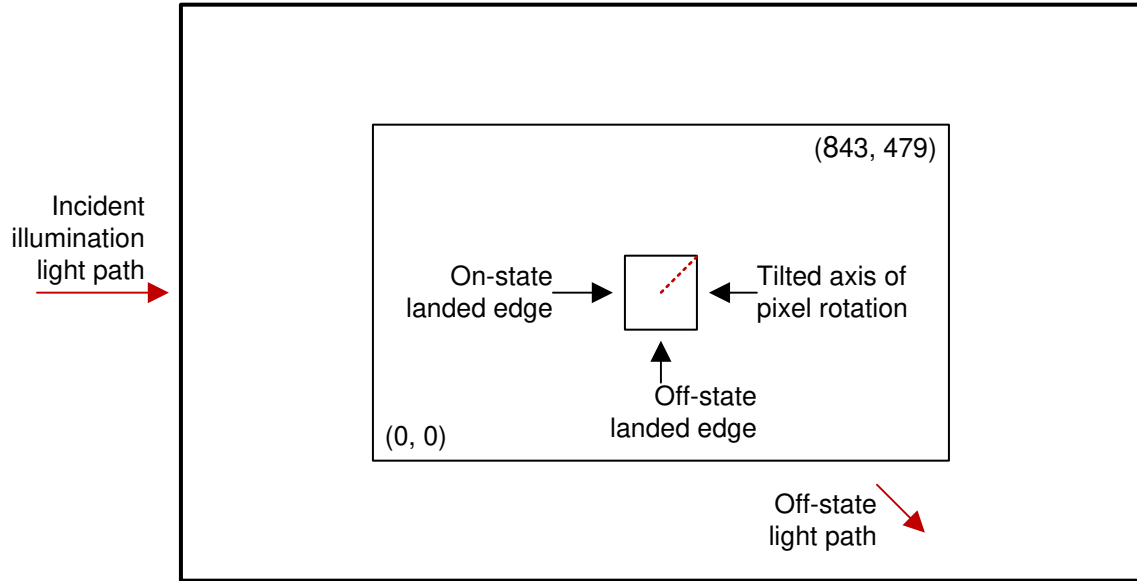

图 6-17. Landed Pixel Orientation and Tilt
- (1) Measured relative to the plane formed by the overall micromirror array.
- (2) Additional variation exists between the micromirror array and the package datums.
- (3) Represents the landed tilt angle variation relative to the nominal landed tilt angle.
- (4) Represents the variation that can occur between any two individual micromirrors, located on the same device or located on different devices.
- (5) For some applications, it is critical to account for the micromirror tilt angle variation in the overall system optical design. With some system optical designs, the micromirror tilt angle variation within a device may result in perceivable non-uniformities in the light field reflected from the micromirror array. With some system optical designs, the micromirror tilt angle variation between devices may result in colorimetry variations, system efficiency variations or system contrast variations.
- (6) When the micromirror array is landed (not parked), the tilt direction of each individual micromirror is dictated by the binary contents of the CMOS memory cell associated with each individual micromirror. A binary value of 1 results in a micromirror landing in the ON state direction. A binary value of 0 results in a micromirror landing in the OFF state direction. See Figure 6-17
- (7) Micromirror tilt direction is measured as in a typical polar coordinate system: Measuring counter-clockwise from a 0° reference which is aligned with the +X Cartesian axis.
- (8) The time required for a micromirror to nominally transition from one landed state to the opposite landed state.
- (9) The minimum time between successive transitions of a micromirror.
- (10) Conditions of Acceptance: All DMD image quality returns will be evaluated using the following projected image test conditions: